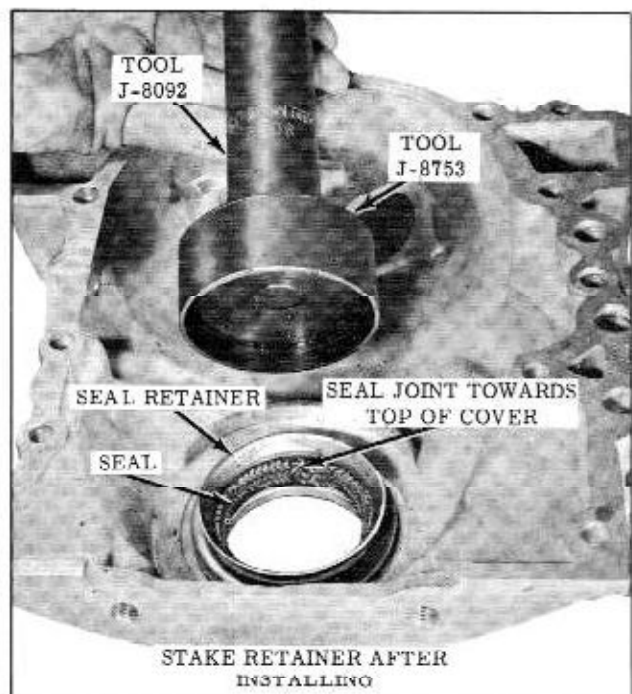

Fig. 8-39 Installing Front Seal
3. Place seal and retainer in cover with seal joint towards top of cover, and install with Tool J-8753 until seated. Stake retainer securely. (Fig. 8-39)